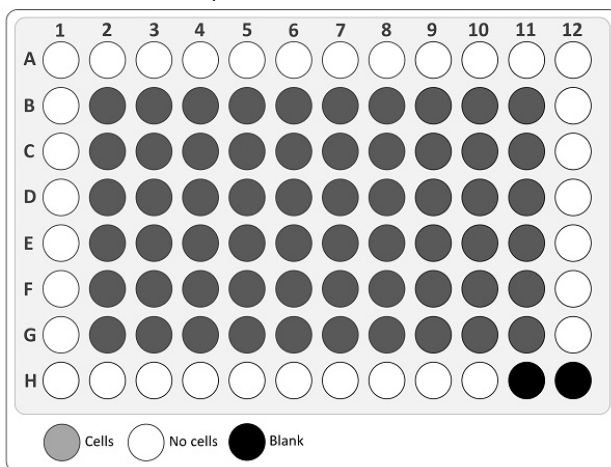

Figure 3. Recommended plate map for extended culture times (> 2 days)
- If using extended culture periods (> 2 days), we recommend following plate map (figure 3), adding 200 μ L of culture medium to all outer wells. This minimizes plate effects related to inconsistent cell growth across the microplate.